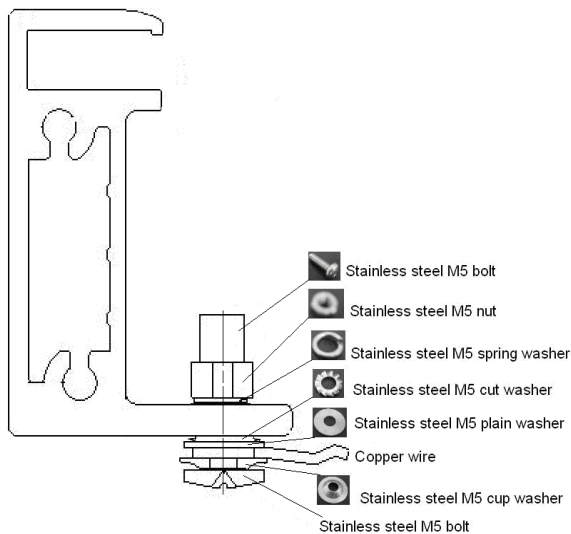

Fig. 15 Grounding the aluminum frame with copper wire
The PV modules are designed with an anodised, corrosion-resistant aluminum alloy frame as a rigid support. To ensure safety and to avoid lightning strikes and electrostatic damage to the PV modules, the PV module frame must be earthed. The earthing device must be in full contact with the interior of the aluminum alloy of the frame, penetrating the surface oxide film. The following is the specific grounding method, as shown in Fig. 15.
- Use the marked 5.5 mm grounding holes to ground the anodized frame. Use one M5 nut, two M5 cut washers, one M5 plain washer, one M5 spring washer, and one M5 bolt and the copper wire. All nuts, bolts, and washers shall be of type M5 and made of stainless steel (Fig. 15).